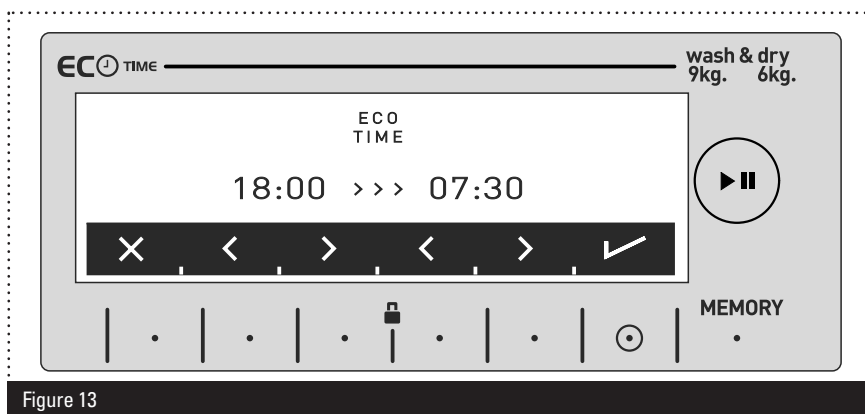

Figure 13
- » ECO TIME and the start and end time of the economic time interval will be displayed on the information screen (fig 13).